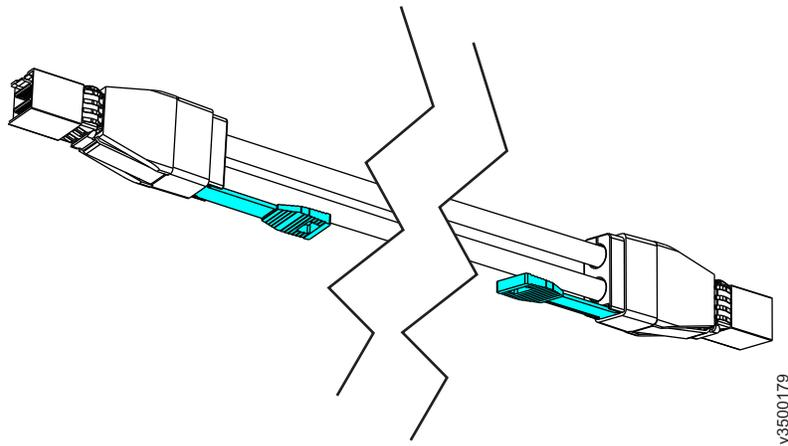

Figure 35. Mini SAS HD to Mini SAS HD cable
- Mini SAS HD to Mini SAS HD (Figure 35 on page 48)